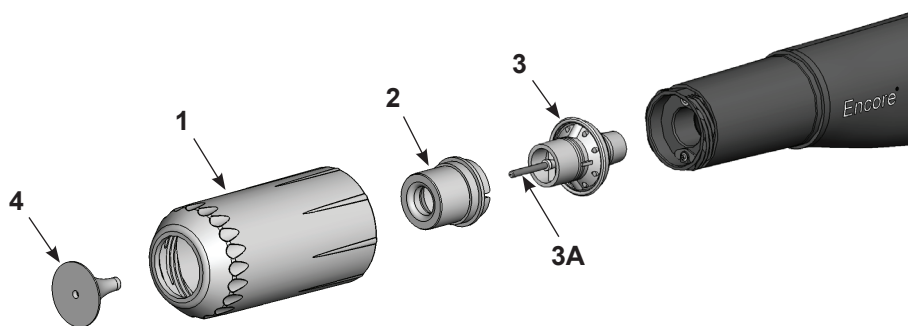

Figure 4-2 Changing Optional Deflectors and Conical Nozzles
1. See Figure 4-2. To change the deflector (4), gently pull it off the electrode assembly (3). If only changing the deflector, install the new one on the electrode assembly, being careful not to bend the electrode wire.
2. To change the entire nozzle, unscrew the nozzle nut (1) counterclockwise.
3. Pull the conical nozzle (2) off the electrode assembly.